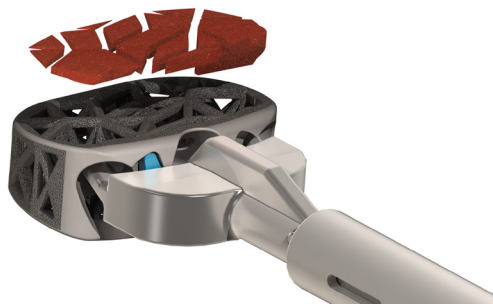

Figure 28
- ▲ Pack the implant with autologous and/or allogenic bone graft (Fig. 28). For best results, cut or morselize the bone graft into 1-2mm sized particles. Place the morselized bone into the top or bottom web structure (top and bottom are interchangeable).